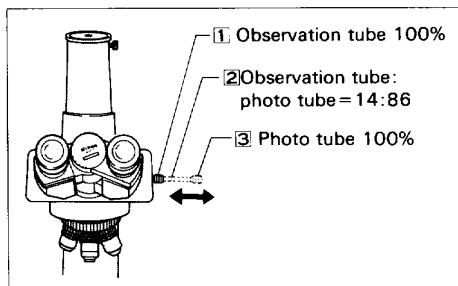

Fig. 7
(2) When using the trinocular eyepiece tube "T"
As shown in Fig. 7, when the change-over knob is pushed until it reaches the limit ①, 100% of the light enters the observation tube. When the change-over knob reaches the intermediate click ②, the proportion of light entering the observation tube and photo tube will be 14:86. When the change-over knob is pulled to the limit ③, 100% of the light enters the photo tube.